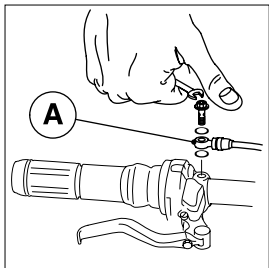

Fig. 13
- Detach connector A (fig 13) from its pump and invert both hoses. Reassemble by proceeding as in 2.3.